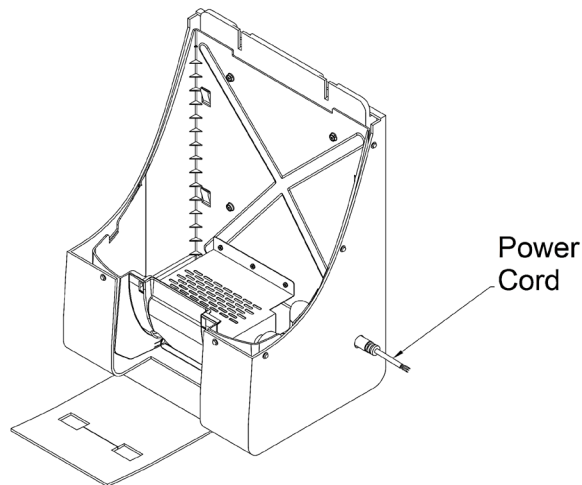

FIGURE 5
Step 5. Power Connection (Figure 5)